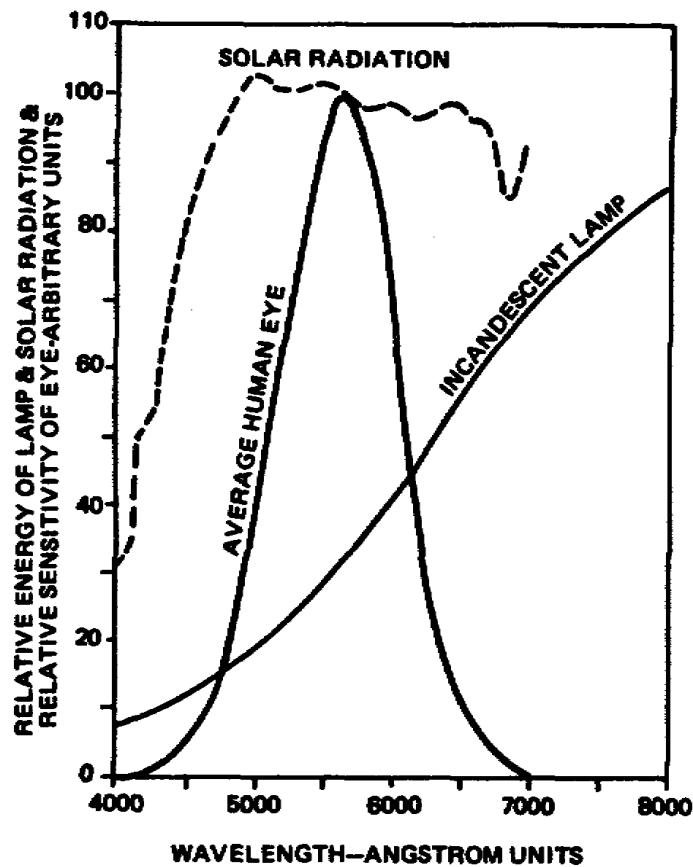

Figure 6-1. Relative light energy
a. Figure 6-1 shows the relative characteristics of several light sources.
c. The second curve shows the relative energy from a typical incandescent light source. Most of its energy falls in the red region 6000 to 8000 angstroms. For this reason incandescent lamps appear yellow or slightly red to any light source, determined by the relative sensitivity of the human eye as represented by the third curve in figure 6-1.
3. Again referring to figure 6-1, you can see that where the energy of the incandescent lamp is weakest, the sensitivity of the eye is strongest. Since the sensitivity of the camera tubes and the eye compare favorably, you can assume that the incandescent lamp is a good light source for TV. Fluorescent lighting is weak in the red region and, therefore, skintones appear darker.